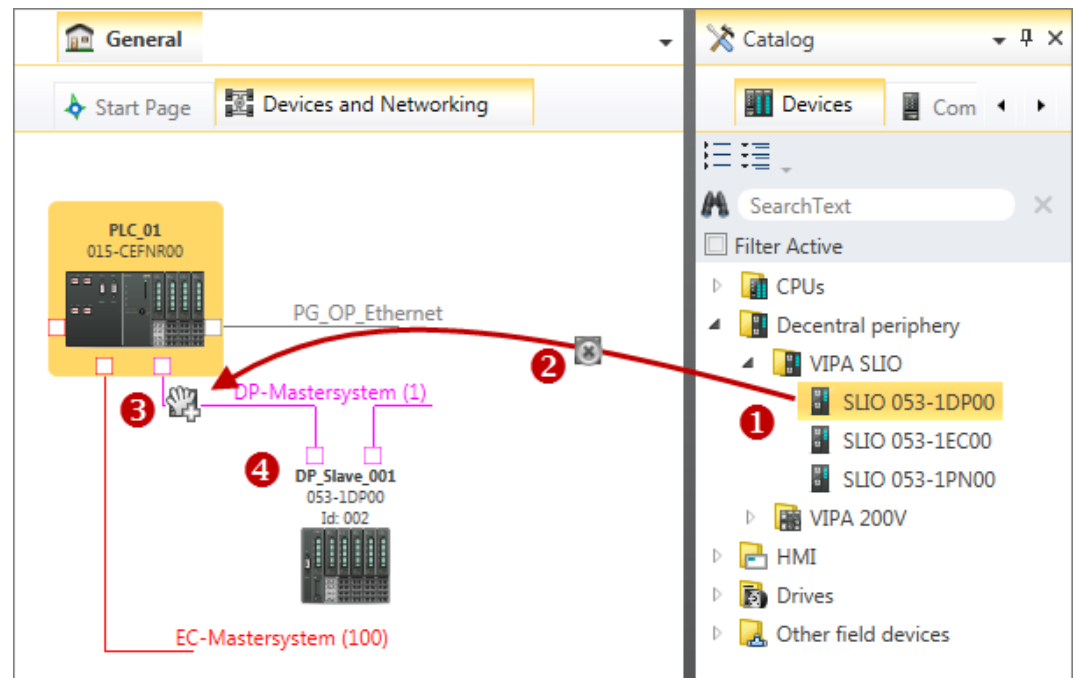

Fig. 62: Adding slave via "Catalog"
- **Catalog:** Drag the desired slave from the 'Device templates' register of the catalog ( ↪ *Chap. 4.10 'Catalog' page 31*) to the connecting line of the bus system in the 'Devices and networking' editor. Fig. 62